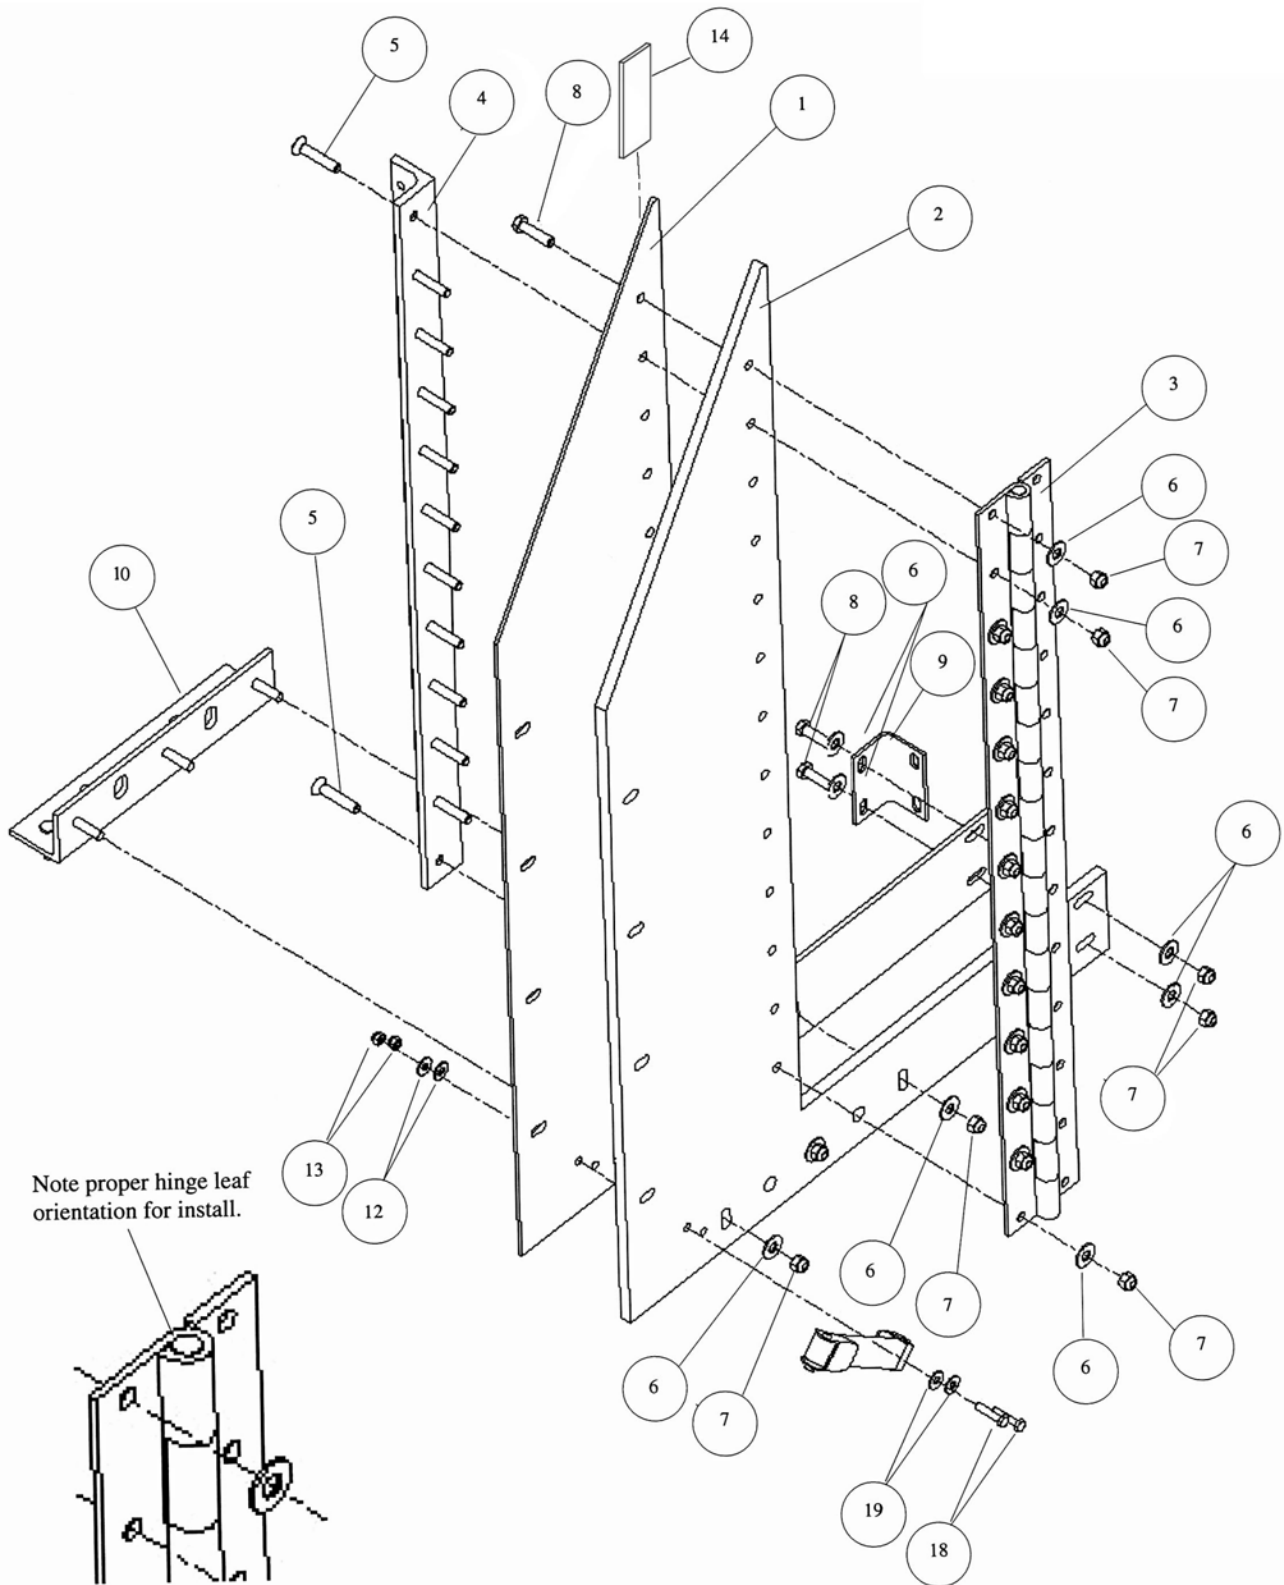

Figure 3-59. Left Side Panels Pre-Assembly.
1. Pre-assemble left side panels as follows (see Figure 3-59):
Ensure door hinge (3) is oriented as shown in Figure 3-59.